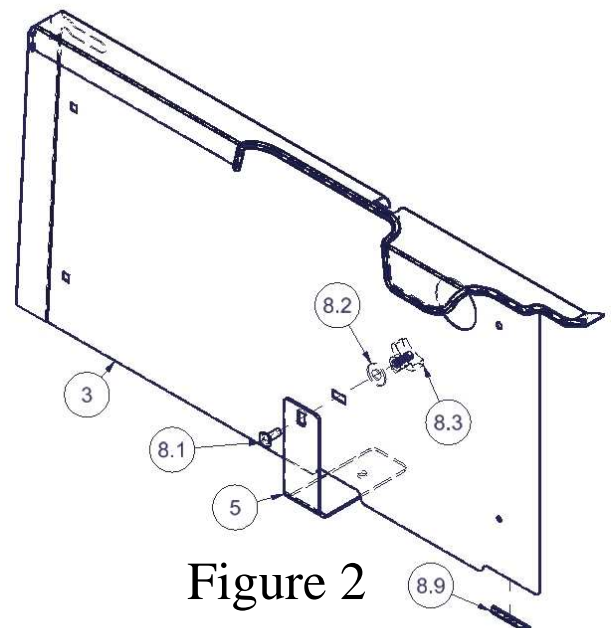

Figure 2
3. Assemble the #3 Left Panel by attaching (1) #5 Mounting Bracket as shown in Figure 2.